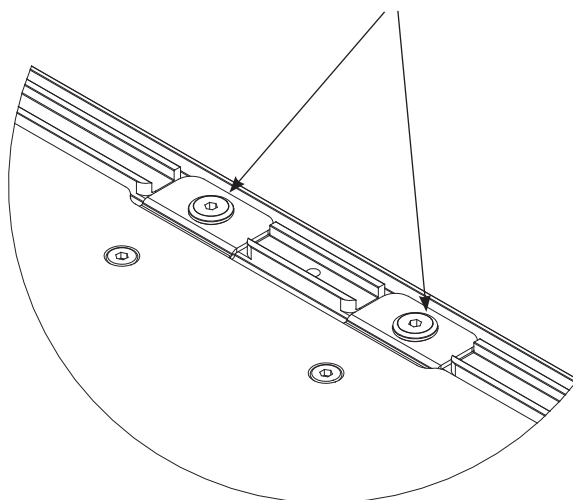
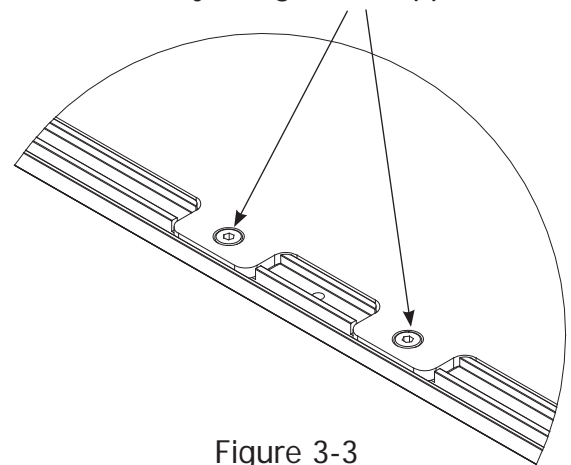

Figure 3-2
Figure 3-3
3-2: Check the (8) large washer head screws on the track support on the adjusting bracket side to make sure they are tight. (**Fig. 3-2**) Check the (8) flat head screws on the track support without adjusting brackets to confirm they are tight. (**Fig. 3-3**) These screws turn and tighten into the track support.